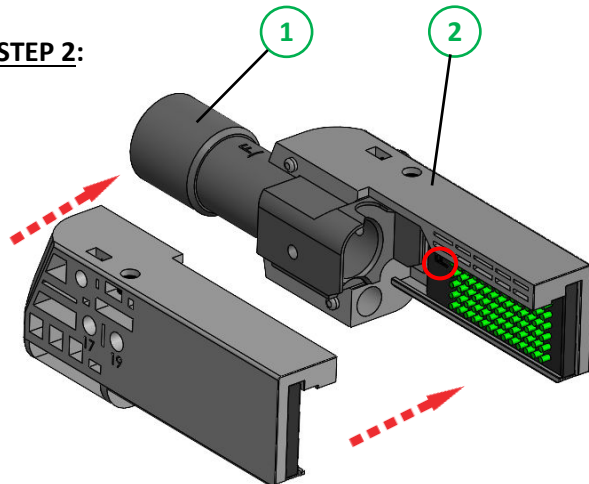
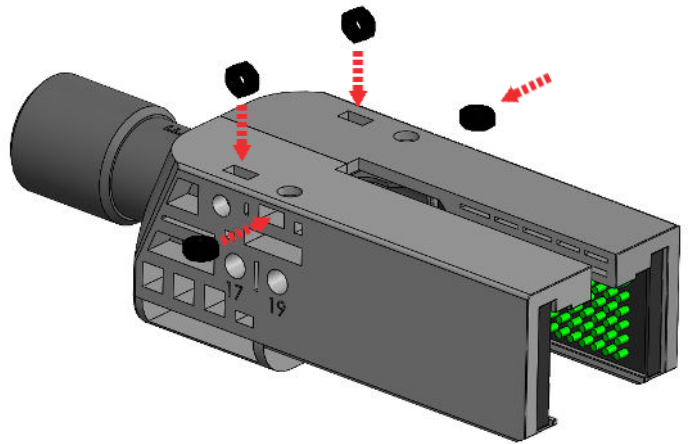

FIGURE 52
FIGURE 53
Place the front aluminum tube (1) inside the front aluminum tube housing (2) with the “F” facing upward (circled) and clamp it with the other one (FIGURE 52). Make sure that the nuts (x4) are in place prior to assembling back into the MCK (FIGURE 53).